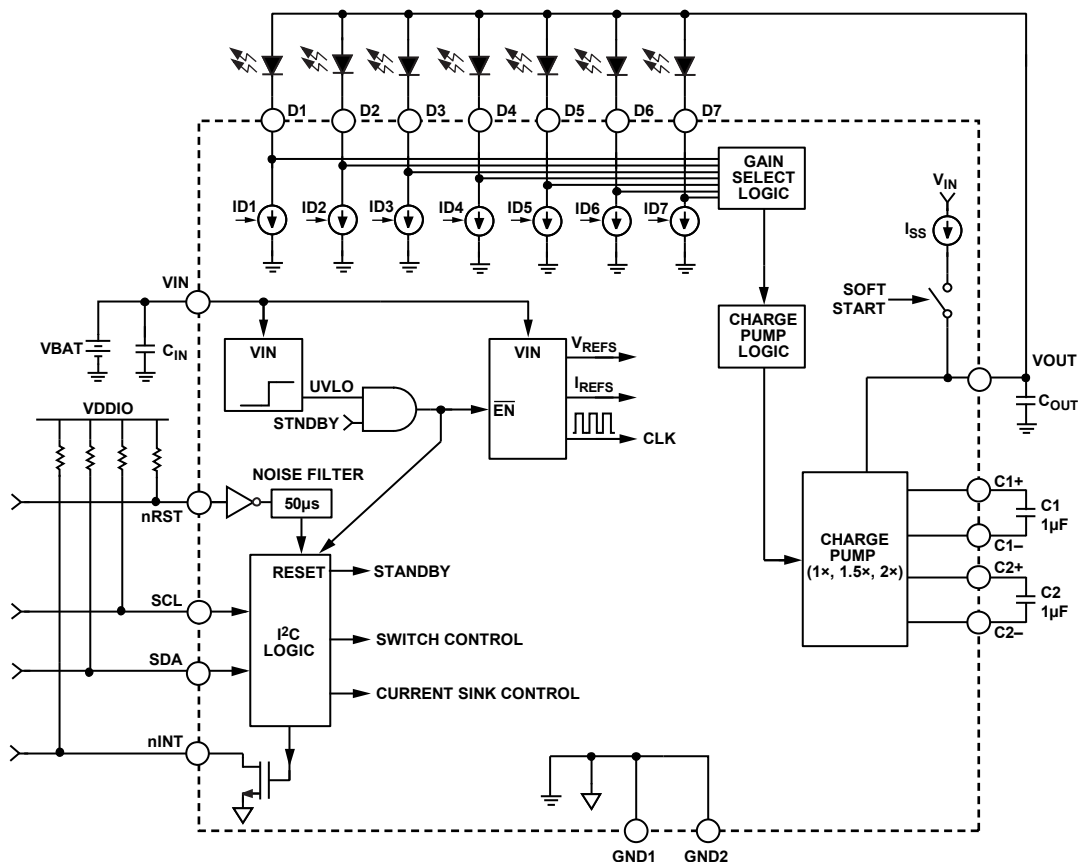

Figure 24. Detailed Block Diagram
By charging the capacitors in different configurations, the charge, and therefore the gain, can be optimized to deliver the voltage required to power the LEDs. Because a fixed charging and discharging combination must be used, only certain multiples of gain are available. The ADP8861 is capable of automatically optimizing the gain (G) from 1×, 1.5×, and 2×. These gains are accomplished with two capacitors (labeled C1 and C2 in Figure 24) and an internal switching network.